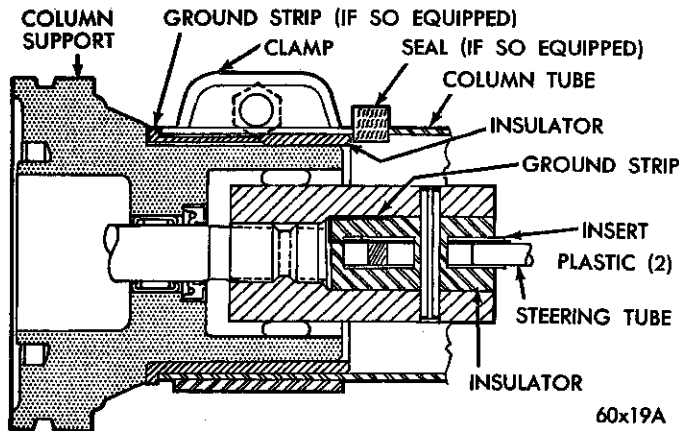

Fig. 9—Jacket Tube Installed on Jacket Support—
(28) On Chrysler Models, pry between the jacket tube clamp (Fig. 9) and the steering gear housing to loosen the jacket tube from the column jacket support insulator boot.
(29) Slide the jacket tube up and off the steering gear through the driver's compartment.
(30) Remove the rubber insulator boot horn ground strap, the steering tube coupling pin, two plastic inserts, horn ground strap, rubber insulator and the upper steering tube.
(31) On Chrysler and Imperial Models, remove the gear housing to frame bolts, washers and alignment wedge.
(32) Slide the steering gear towards the rear of the